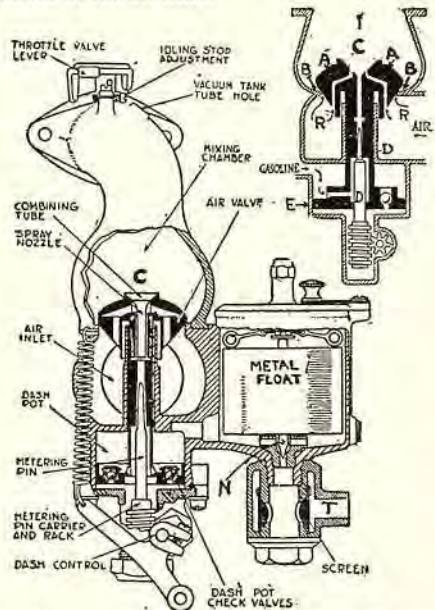

Fig. 44 (upper). How the metering pin D varies the mixture in the Stewart. Air passes through the passages R around the nozzle.
On the Dodge the carburetor (Figs. 44, 45) is on left side of the engine, and is fed from a Stewart vacuum tank. The carburetor is supplied with a hot-air attachment which draws air from around the exhaust manifold to the air inlet.
Principle (Fig. 44): The automatic metering valve (A) rests on the valve seat (B) when the engine is not running. As the engine begins to rotate the suction of the pistons raises the valve (A) from the seat drawing in air (R to B) as indicated by arrows. The suction also draws gasoline up within the valvestem which mixes with incoming air in chamber (C).